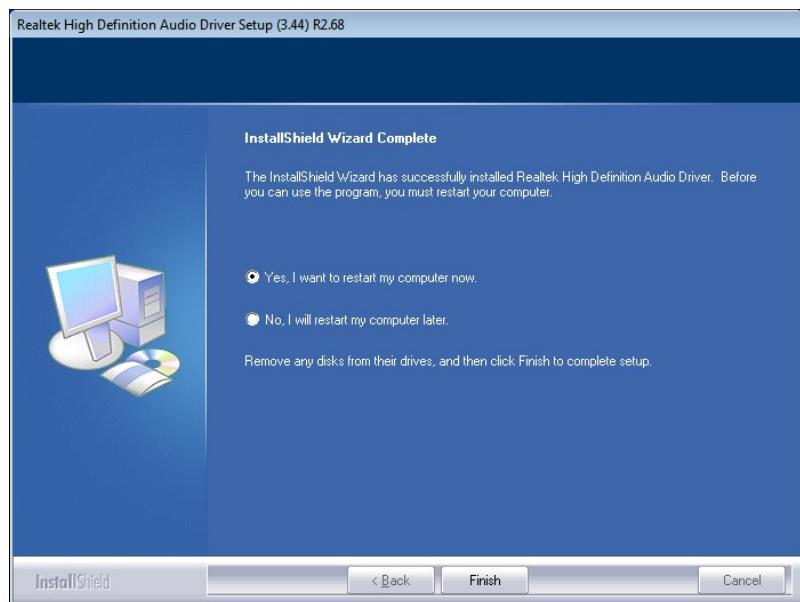

Figure 6-22: Audio Driver Installation Complete
Step 8: When the driver installation is complete, the screen in **Figure 6-22** appears.